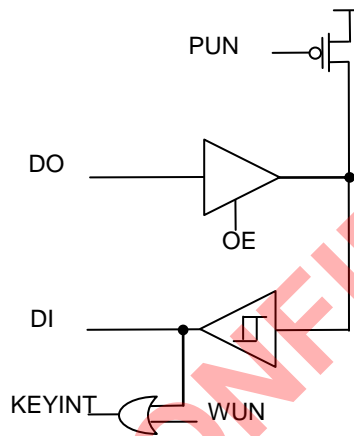

Figure11.1 Ports I/O block diagram
A8105 has two type of digitla I/O Pins. One is 24 pins and the other is 28 pins. In 24pins, there are separated to 3 Ports (Port0, Port1 and Port3) and each of the Port pin can be defined as general-purpose I/O (GPIO) or peripheral I/O signals connected to the timers, UART, I2C and SPI functions. In 28pins, there are extra 4pins of Port2 and they are Port2.0 ~ Port2.3. Thus, each pin can also be used to wake A8105 up from sleep mode. User can select each pin function by setting register. Each port has itself port register like P0 (0x80), P1 (0x90), P2(0xA0) and P3 (0xB0) that are both byte addressable and bit addressable. When reading, the logic levels of the Port's input pins are returned. Each port has three registers to setting Pull-up (PUN), Output-enable (OE) and Wake-up enable (WUN). As shown the bellow block diagram, Fig. 11.1. Unused I/O pins should have a defined level and not be left floating. One way to do this is to leave the pin unconnected and configure the pin as a general-purpose I/O input with pull-up resistor.